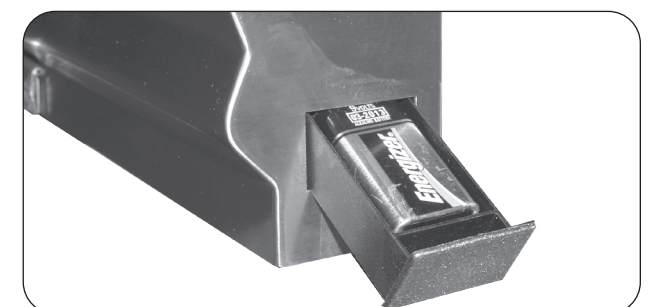

Fig. 34-4 Replace igniter battery
2. Disconnect the battery from the connector and replace it with connecting the new battery and close the drawer (see Fig. 34-4).